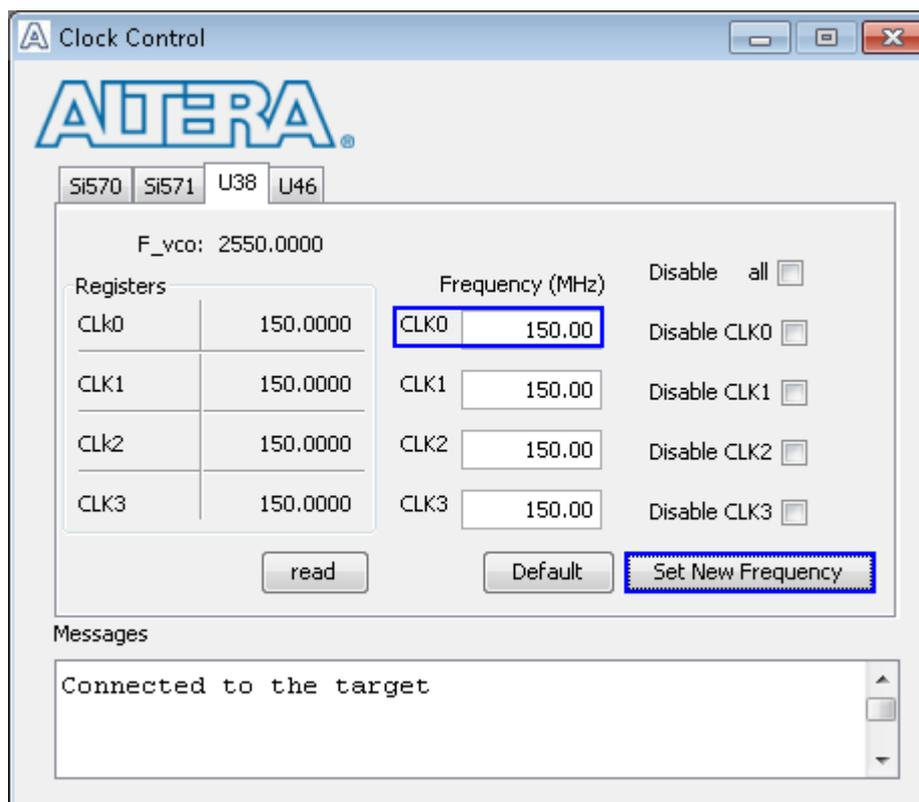

Figure 1-5 Set programmable clock = 150 MHz by Clock Control Application
- Open “Clock Control” application which is provided by Altera for StratixV GX Development board, change to U38 tab, change CLK0 value to be 150 MHz, and press “Set New Frequency” button. Then, wait until clock programmable complete. After this step, reference clock will be 150 MHz for SATA interface, as shown in Figure 1-5.